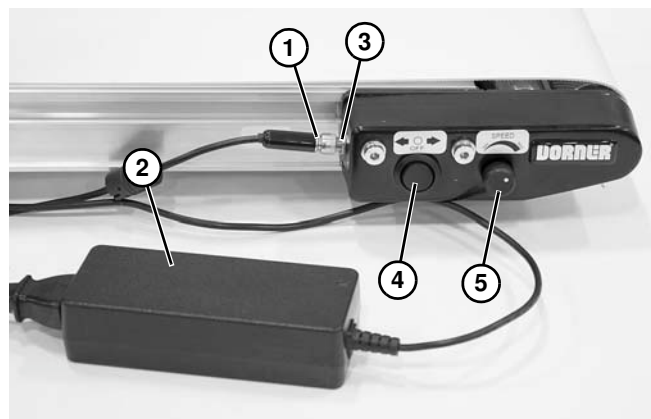

Figure 22
1. No wiring is required. Attach quick disconnect end (**Figure 22, item 1**) of power supply (**Figure 22, item 2**) to power jack (**Figure 22, item 3**).
2. Select conveyor running direction with directional switch (**Figure 22, item 4**).
3. Select conveyor speed with speed control knob (**Figure 22, item 5**).